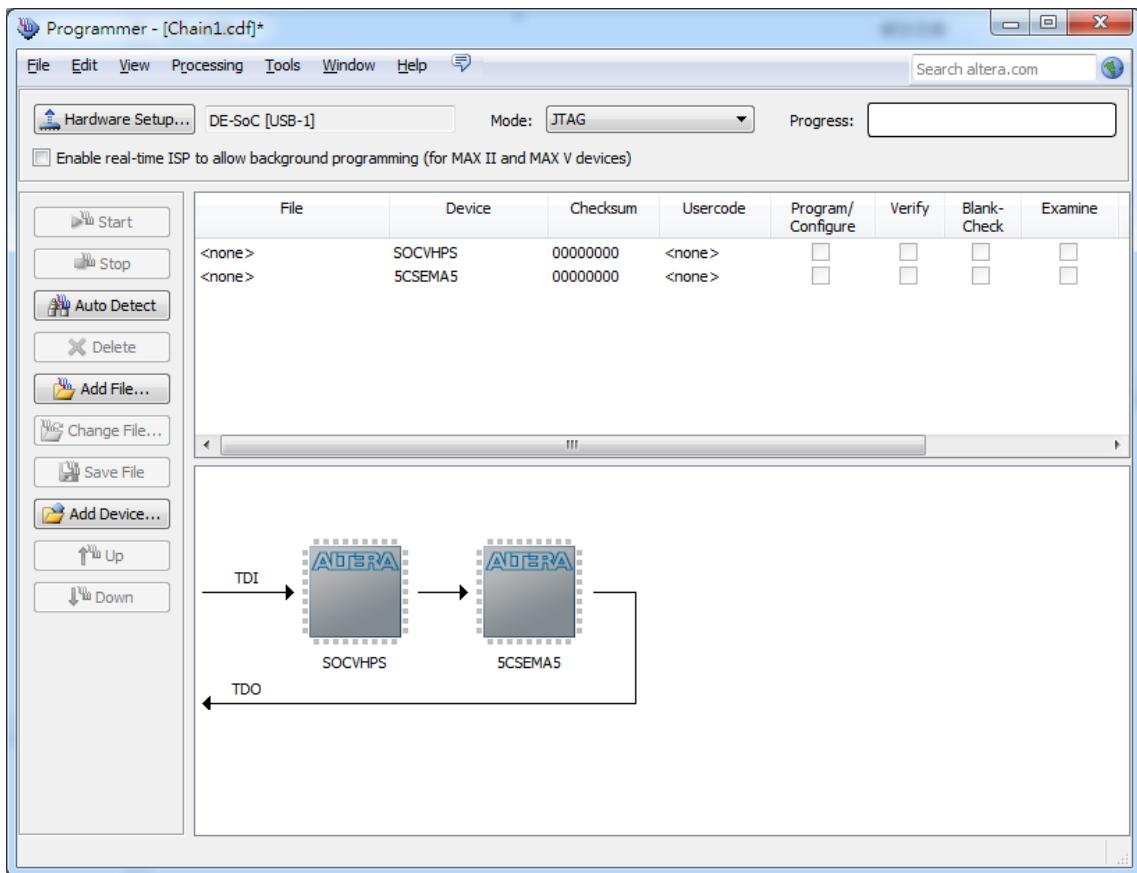

Figure 3-9 FPGA and HPS detected in Quartus programmer
4. Both FPGA and HPS are detected, as shown in **Figure 3-9**.